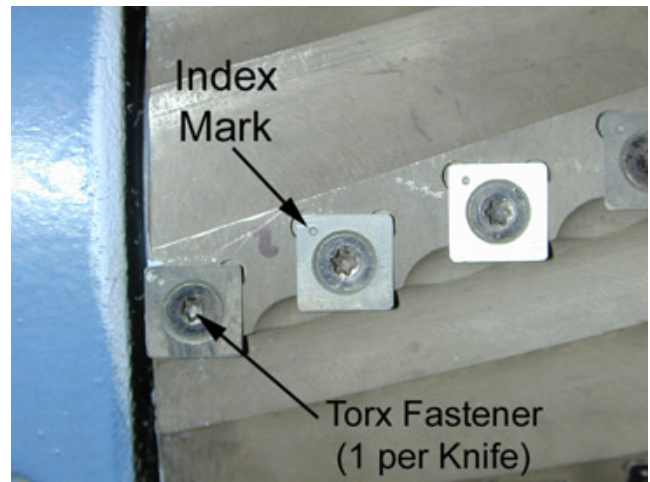

Figure 29
4. **Figure 29** shows a closeup of the cutterhead. Notice the *indexing marks* on each knife. Set a practice in your shop to always rotate the knives clockwise. When the index mark is next in the upper left position (after 4 rotations), it is time to replace all the knives.